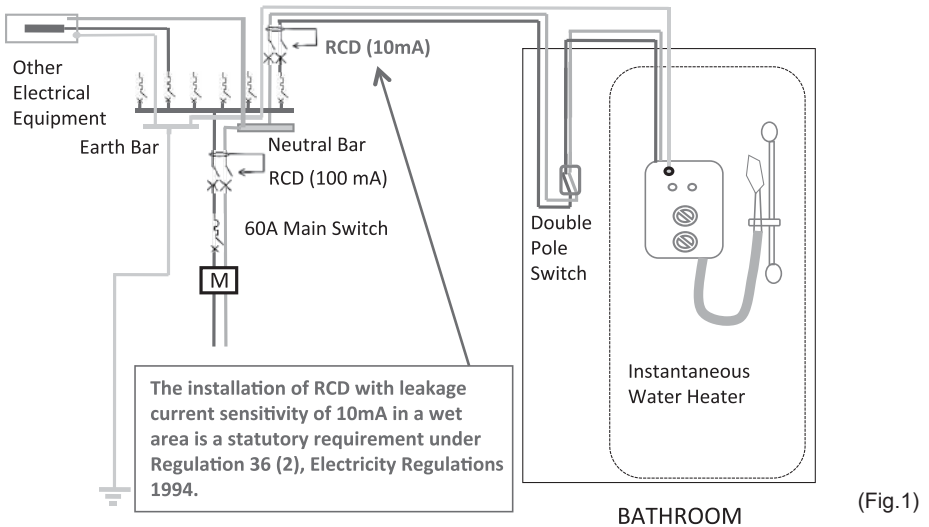

Figure 1: The installation of RCD for instantaneous water heater with leakage current sensitivity of 10mA in a wet area.
1. Product introduction	(5)
2. Unit installation	(10)
3. Troubleshooting	(13)
4. Packing list	(14)
- Incorporating Figure 1, The installation of approved extremal RCD for instantaneous water heater with leakage current sensitivity of 10 mA in a wet area of the Energy Commission Guideline for the Design, Installation, inspection, Testing, Operation and Maintenance of Water Heater Systems.